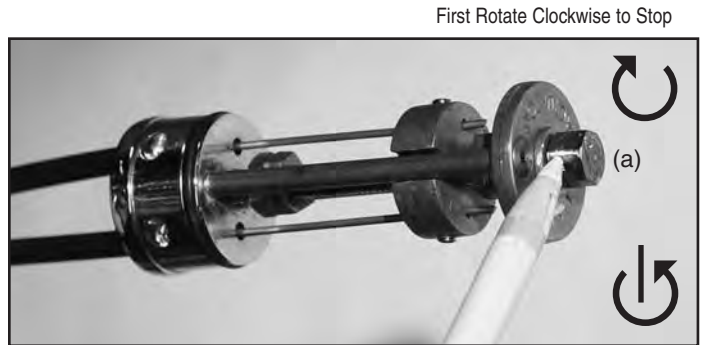

Figure 12
When correctly installed there will be proper inner Wire to Cable Sheath geometry and the Wire ends will be through the Position Nut as shown in Figure 12.
3. Rotate Drive Screw with Nut (a) clockwise to stop. Mark top of nut (Grease Pencil) then rotate ONE revolution counter clockwise. **Figure 12**